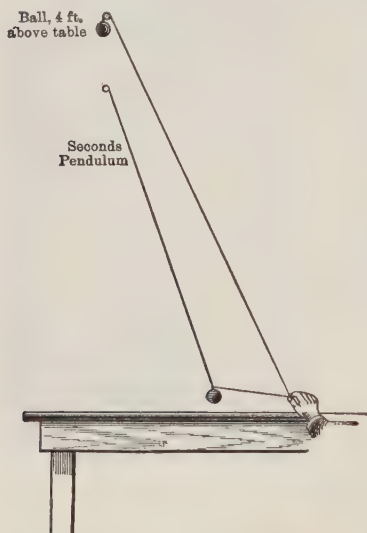

FIGURE 503. — FALLING BALL AND SWINGING PENDULUM.
**EXPERIMENT 123.** — A seconds pendulum is 39.1 inches long. Suspend such a pendulum so that it will swing just clear of the floor or the chalk rack. Four feet above the lowest point of the pendulum's swing, and about an inch to one side, drive a second nail (Figure 503). Tie a long silk thread to a steel ball and draw the ball to the upper nail by the thread. Draw back the pendulum by a short piece of cord, holding both the silk thread and the cord